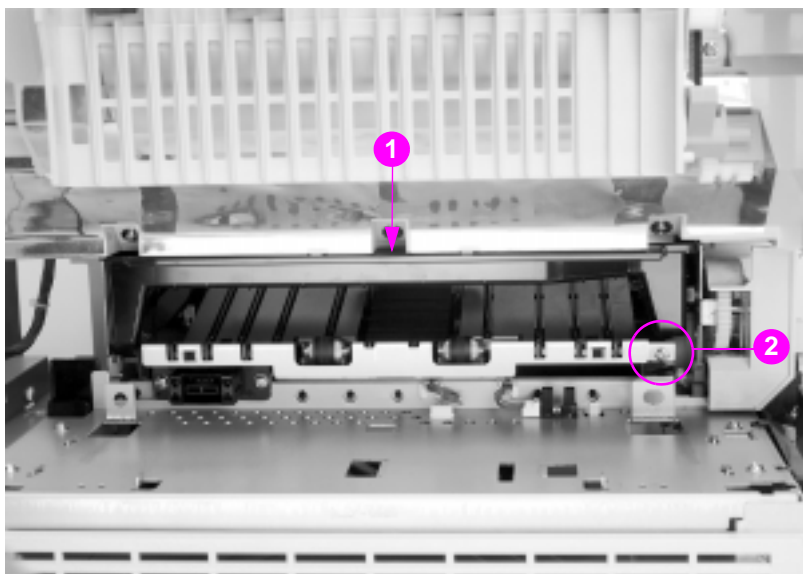

Figure 6-63 Paper transport assembly removal and replacement
- 6 Remove the toner catch tray by pushing down on the middle of the tray as shown in Figure 6-63 (callout 1) and pulling out.
- 2 Remove the toner catch tray by pushing down in the middle and sliding it straight out as shown in Figure 6-63 (callout 1).